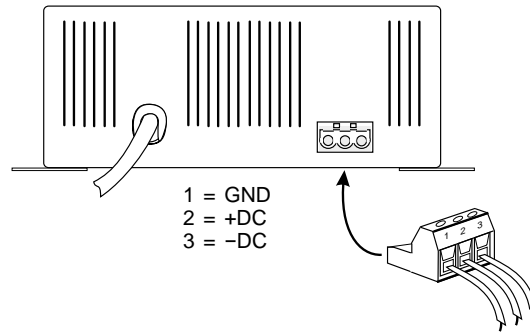

Figure 1 Model 711 cabinet showing 3-position plug-in terminal strip.
3.6 DC OUTPUT CONNECTIONS Before connecting to the DC output ensure that mains power is not connected. Be certain that the DC output LED is not lit. The DC-output connections are made via a 3-position plug-in terminal strip. The terminal strip is located on the bottom face of the unit, adjacent to the where the mains power cord exits the chassis, as illustrated in Figure 1. Remove the terminal strip by firmly grasping it with your fingers and pulling it straight away from the cabinet. Do not wire the terminal strip while it is attached to the power supply. Once it is removed, a small straight-blade screwdriver is required to loosen the clamp screws. The interconnecting wires are slipped into the openings of the terminal strip, and then the screws are tightened to secure the wires into place. A minimum wire gauge of #18 AWG or larger is recommended. (Remember that the smaller the AWG number, the larger its current rating.) Although not required, using a wire that is “heavier” than is technically necessary will help to minimize the resistance, and the resultant voltage drop, between a power source and the equipment being powered. After the wires are secured into the terminal strip, plug it back into the socket on the Model 711. Ensure that the terminal strip is firmly mated with the socket.